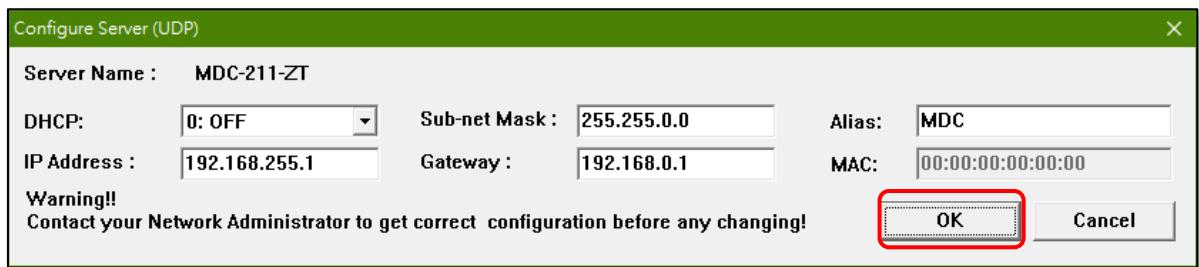

Figure. 2.3 Network parameter setting interface
**Step 3** Configure the network parameters in the pop-up settings window, and click "OK" button to modify the network settings, as shown in Figure 2.3.